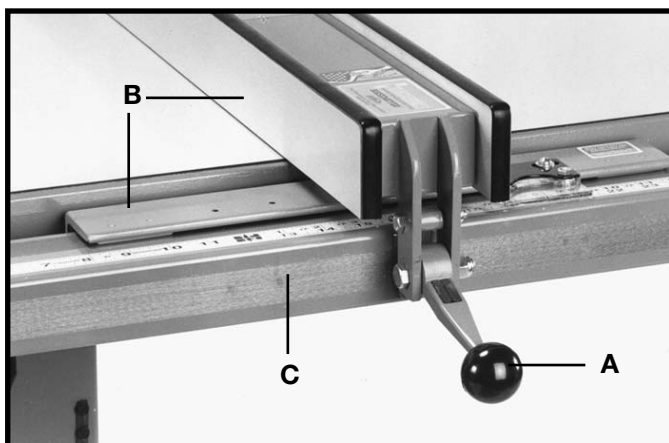
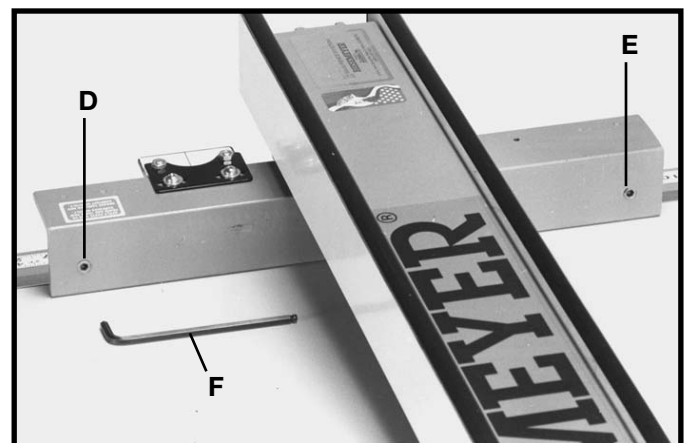

Fig. 56
Fig. 57
When the fence locking handle (A) is pushed to the down position, as shown in Fig. 56, the fence assembly (B) should be completely clamped to the guide tube (C). If the fence assembly (B) is not completely clamped to the guide tube (C) when the handle (A) is pushed down, as shown in Fig. 56, lift up handle (A) and raise fence assembly (B) up off the guide tube (C). Slightly tighten the two adjusting screws (D) and (E) Fig. 57, using the 3/16" allen wrench (F) not supplied. Adjusting screws (D) and (E) Fig. 57, should be tightened an equal amount. Replace fence onto the guide tube and recheck to see if the fence assembly (B) Fig. 56, is completely tightened to the guide tube (C) with the locking handle (A) pushed down. Adjust further if necessary.